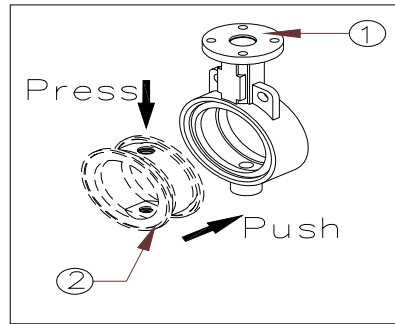

Fig 8.4
- 11.3.2 Press the seat (2) as shown in fig.8.4 and push it into the valve body (1) with aligning body stem hole & seat hole.